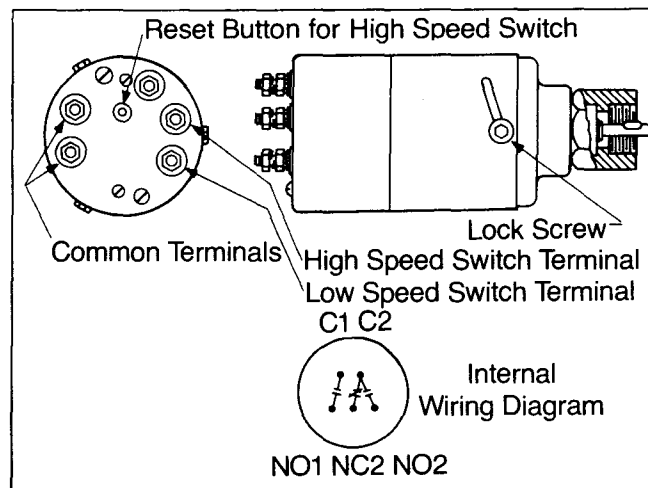

Fig. 1-22, (CGS27). Double speed switch
- a. Remove the round head dust cover screw marked 2 from top of switch. Fig. 1-22.